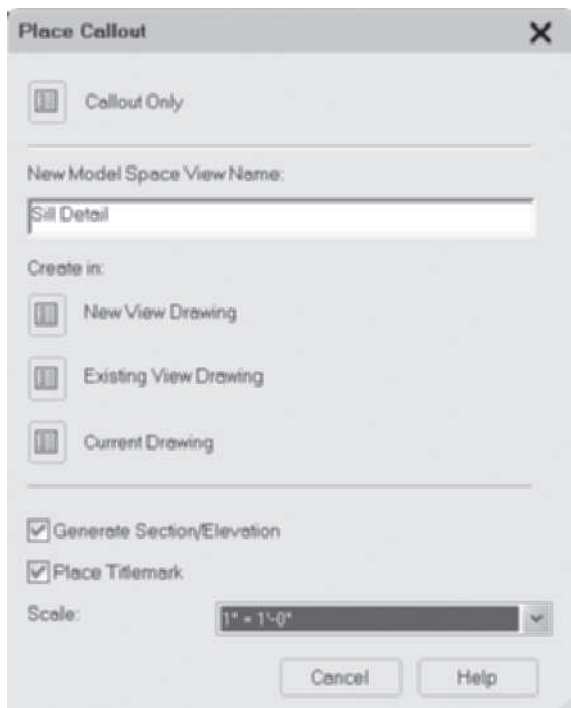

FIGURE 12.96 *Place Callout dialog box for the Detail Mark*
29. The Place Callout dialog box opens as shown in Figure 12.96. Type **Sill Detail** in the New Model Space View Name. Check Generate Section/Elevation and Place Titlemark checkboxes. Select 1" = 1'-0" [1:10] scale. Click the New View Drawing button to open the **Add Detail View** dialog box.